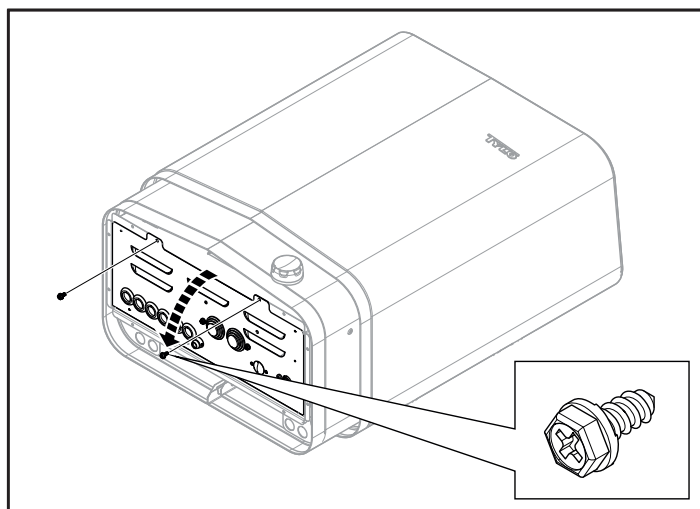

Figure 9 Opening/closing the cover
2. Undo the screws and open the cover (see Figure 9).
7. Close the cover and tighten the screws (see Figure 9).